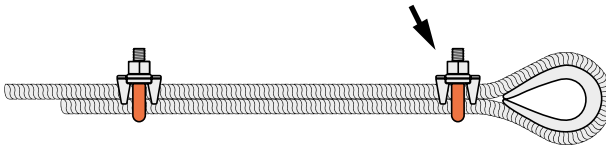

Figure 4.: Install second clip
- If two clips are required, position the second one as close as possible to the thimble or loop (see Fig. 4).